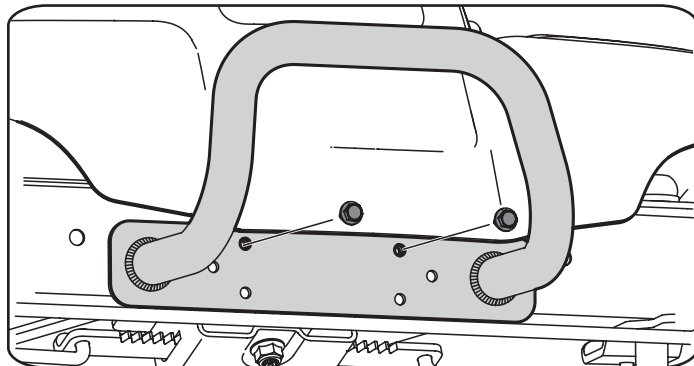

Figure 14
1. Remove the two screws as shown in Figure 14.
2. Position the bumper over the mounting holes and secure using the hardware removed in Step 1, as shown in Figure 14.